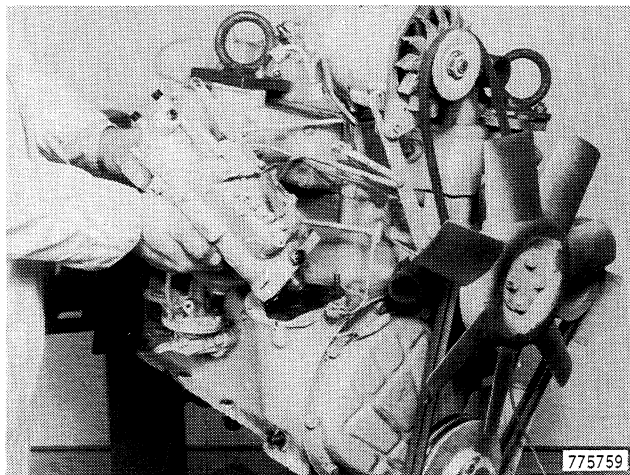

Figure 13
10. Remove the injection pump from the engine, Figure 13.